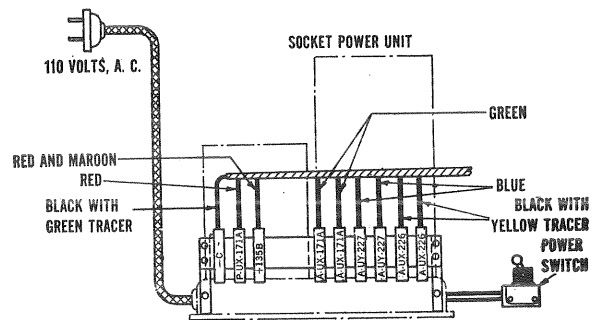

Fig. 4—Socket Power Unit Terminals
**A. FILAMENT SUPPLY—Test the filament voltage across each of the three pairs of filament binding posts shown in Fig. 4, using either the Weston Type 537 Tester or a separate A. C. voltmeter of the proper scale reading. The following are the correct meter readings which should be obtained:**
**B. PLATE SUPPLY**—Using the high range voltmeter binding posts of the set tester or the high range scale of the separate D. C. voltmeter, test between one of the A-UX-226 terminals and the +135B terminal (see Fig. 4), and between one of the A-UX-171-A terminals and the P-UX-171-A. The following are the approximate readings which should be obtained.